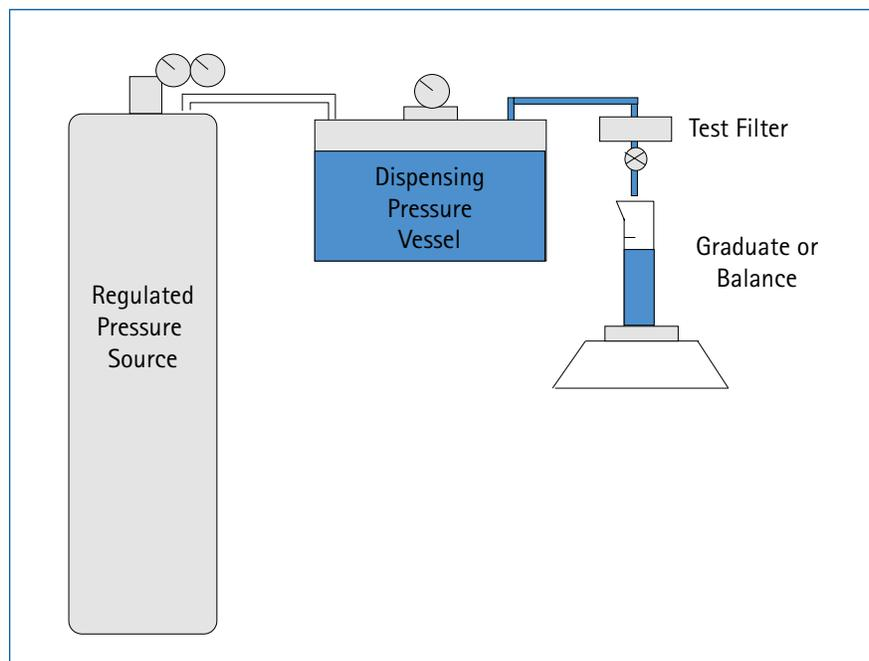

Figure 1: Vmax™ Constant Pressure Test Set-up.
- Vmax™ set up (see Figure 1 below and Appendix I for details and catalog numbers)
2	Assemble the equipment as shown in Figure 1 with the equipment listed in Appendix 1.